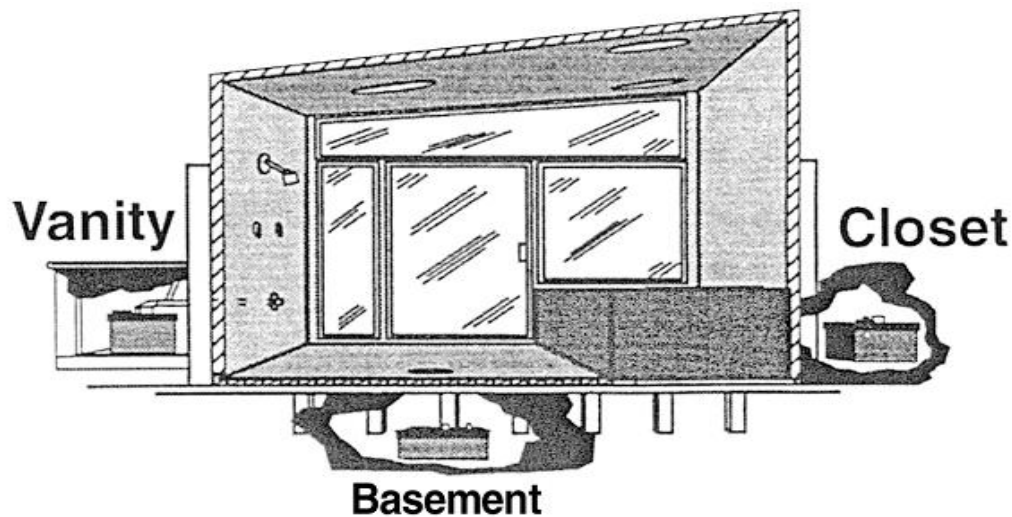

Figure 1
5. The generator must be upright, accessible and on a level surface with all connections on top. Access panel must be unobstructed and allow for easy access (**see Figure 1 & 2**).